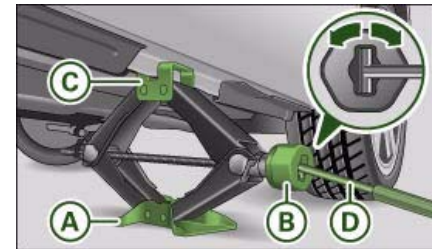

Fig. 274 Changing a wheel: Jack
- Wind up the jack by the knob **(B)** until the claw of the jack **(C)** completely surrounds the **seam** on your vehicle ⇒ *fig. 274*. ▶
- Now fit the crank handle **D** onto the jack by inserting it in the opening on the knob ⇒ *page 290*, fig. 274. Turn the crank handle clockwise or anti-clockwise to secure it in place.